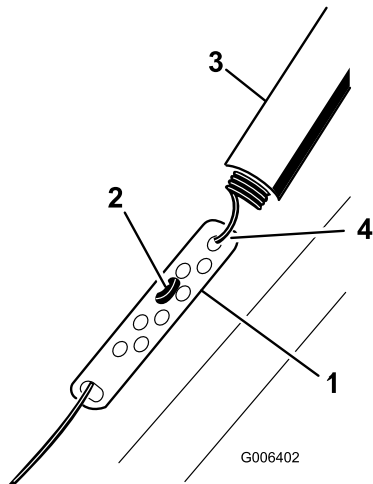

Figure 21
1. Slide up the spring cover and unhook the spring from the adjuster link (Figure 21).
2. Move the Z-fitting to a higher or lower hole on the adjuster link as needed to obtain the 1/16 inch to 1/8 inch (2 mm to 3 mm) gap between the control bar and the handle (Figure 21).